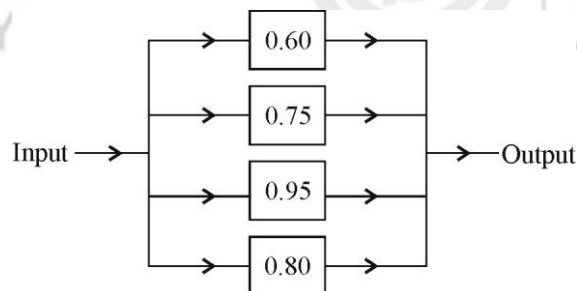

Fig. 14.9: Reliability block diagram for Example 4.
**Example 4:** Evaluate the reliability of the parallel system, which has the reliability block diagram shown in Fig. 14.9 for a mission of 90 days. The reliabilities of the components given in Fig. 14.9 are for a mission of 90 days. Assume that the failure of any component does not affect the functioning of the other components.